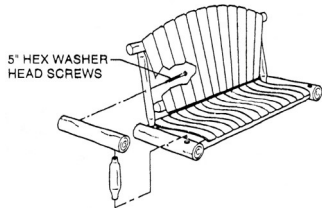

figure 2
STEP 3 Insert 12" arm support into 1-1/2" hole in arm, then into 1-1/2" hole in the top of the seat end. Drive dowels in as far as possible. Fasten arm to frame of the back by tightening the preinstalled 1/4" x 5" lag screw into the pilot hole in the arm with a wrench. Repeat process for the other arm. See Figure 2.